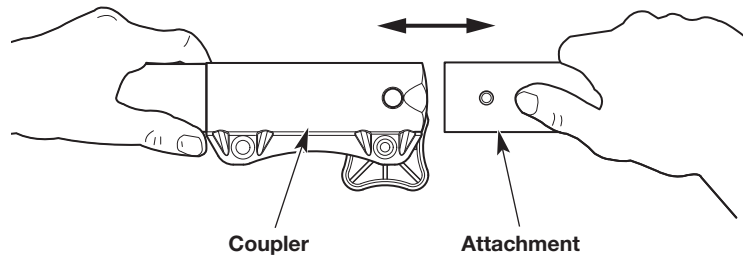

Fig. 4
4. Pull the attachment straight out of the coupler (Fig. 4).